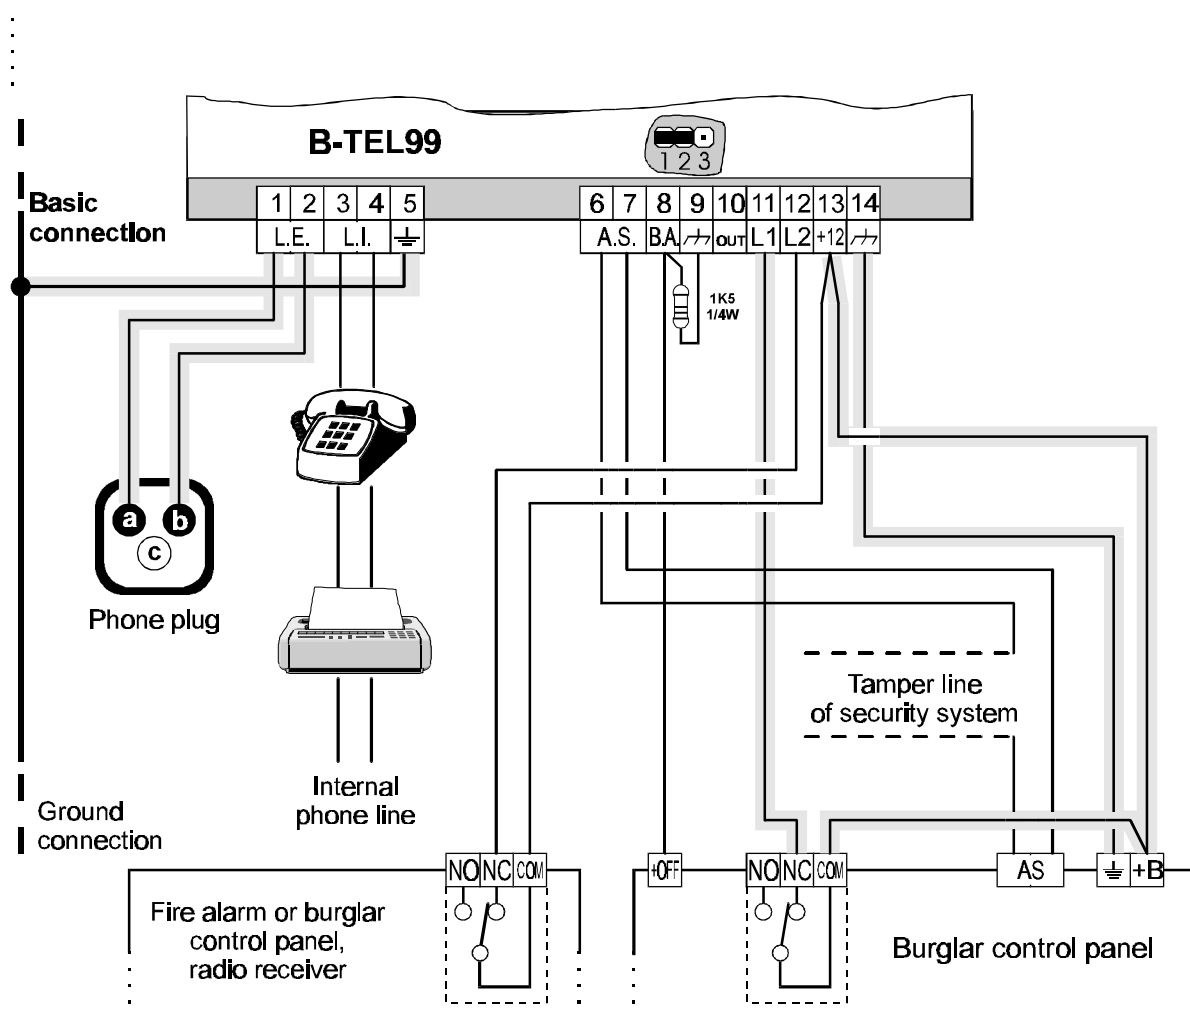

Figure 5 Basic and auxiliary connections.
The basic connections are necessary for the basic functions of the B-TEL99, and are illustrated in figure 5 (highlighted lines) on the following page. Figure 5 illustrates Alarm channel 1 connected to the normally closed contact (NC) of the control panel alarm relay.
The auxiliary connections are not necessary to the basic functions of the B-TEL99, but offer further functions to this flexible appliance. The connections illustrated in figure 5 are described in the following paragraphs.
Tamper connection The connection of the tamper terminals allows detection of tamper on the B-TEL99 container. These terminals should be connected in series to the tamper line of the alarm system, as shown in figure 5 .
Device connection The B-TEL99 has two Alarm channels. Alarm channel 2 can be used for the connection to the alarm relay of the fire alarm system, to the Duress relay of the security system, or for the connection of a radio receiver (tele-service). The connection example is shown in figure 5: terminals [COM] and (NC) of the device relay must be connected to terminal 13[+12] and to the secondary alarm channel 12[L2] of the B-TEL99.
In the first case (dialler difficult to reach) connect a button or pulse lock between terminal 8[B.A.] and terminal 9[\nearrow] as illustrated in figure 5. In the second case (to stop alarm cycle/s when the Burglar system is disarmed), terminal 8[B.A.] can be connected to terminal [+ON] of the Burglar system (a terminal with Negative when the system is armed), or to terminal [+OFF] of the Burglar system (a terminal with Positive when the system is disarmed). In the latter case, a 1k5, 1/4 W resistance between terminal [B.A.] and [\nearrow].